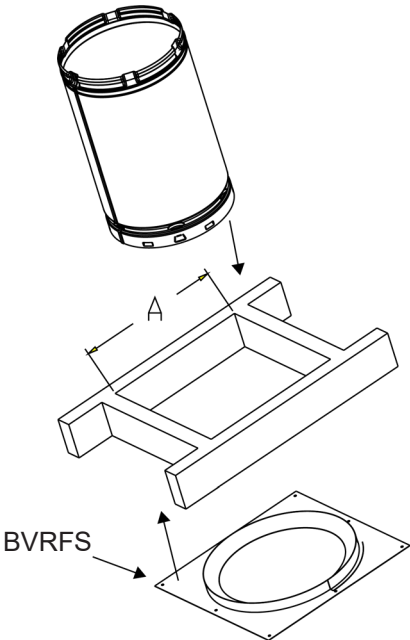

Fig. 36a
1. Frame in an opening providing proper clearance to Type B Gas Vent. See Figure 36a and the Framing Chart below.